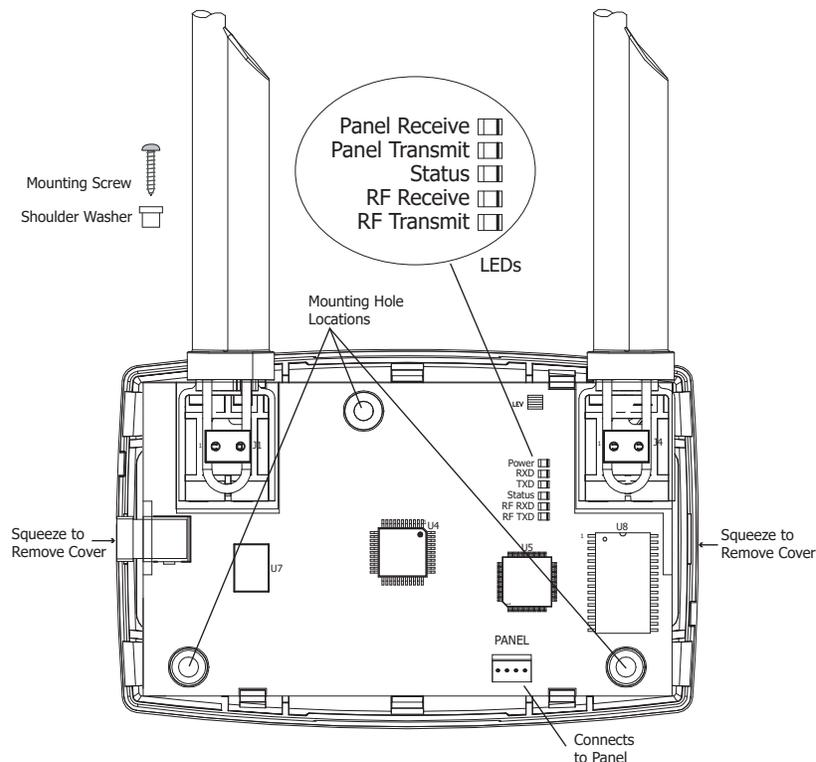

Figure 1: Receiver PCB
2. Secure the wireless receiver to the wall in the desired location. Ensure the two antennas are pointing up. Use the supplied shoulder washers and screws in the mounting hole locations. See Figure 1.